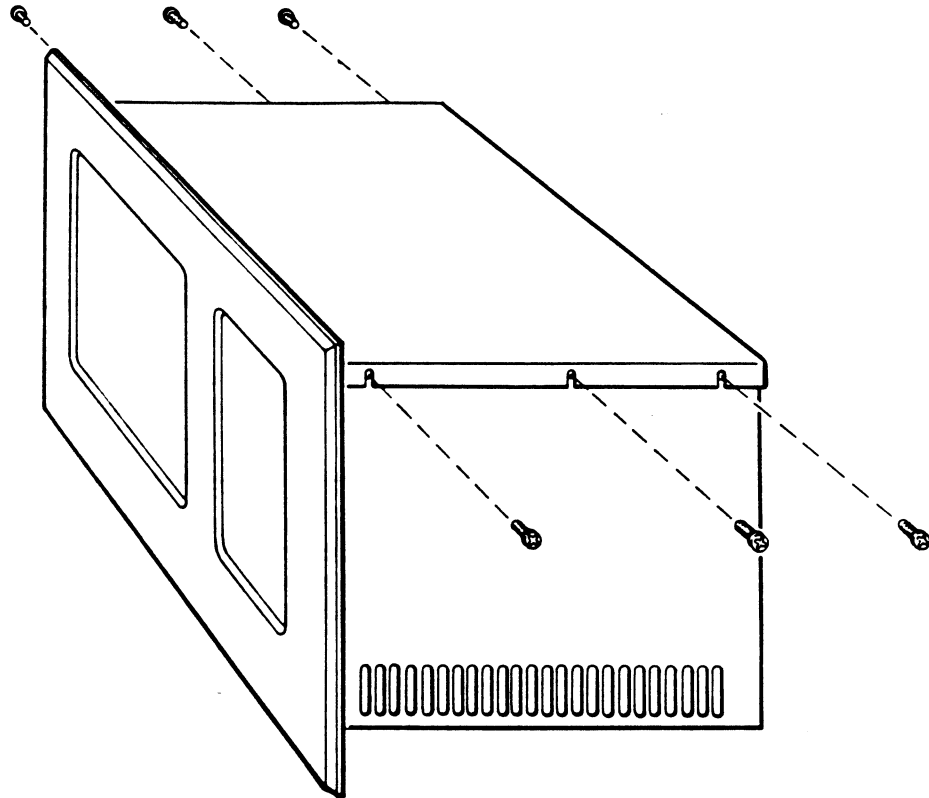

Figure 2-1 Removing the Terminal Cover
2. Remove the top of the terminal by loosening the six screws as shown in Figure 2-1. Save all screws and washers.